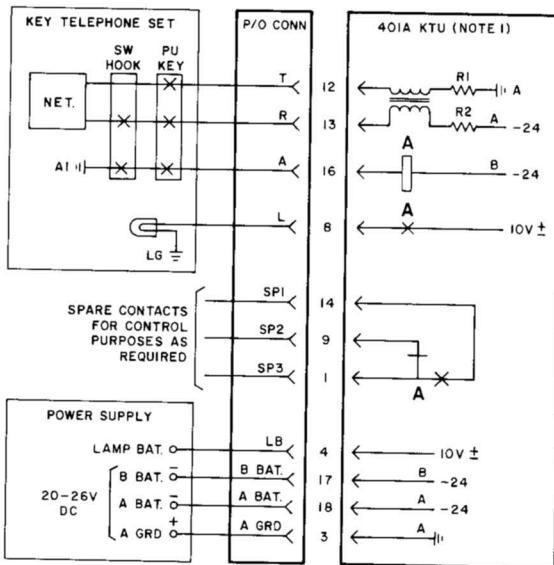

Fig. 4—Condensed Functional Schematic of 401A KTU (Manual Intercom Line Circuit)
**1.08** Functional schematics (Fig. 4 through 21) cover the basic circuitry of each KTU, contacts used, and its relationship to telephone sets, other KTUs, power supplies, and apparatus. Dashed lines are used to simplify the schematics and to indicate intermediate circuitry. If full schematics are required, refer to the SDs listed in paragraph 1.11.
**2.01** The 401A KTU (Fig. 4) is a 4-inch, 18-contact unit that provides talking battery for manual intercom and control for line busy lamp feature. Audible signaling between stations is accomplished by means of separately furnished pushbuttons, buzzers, or bells.